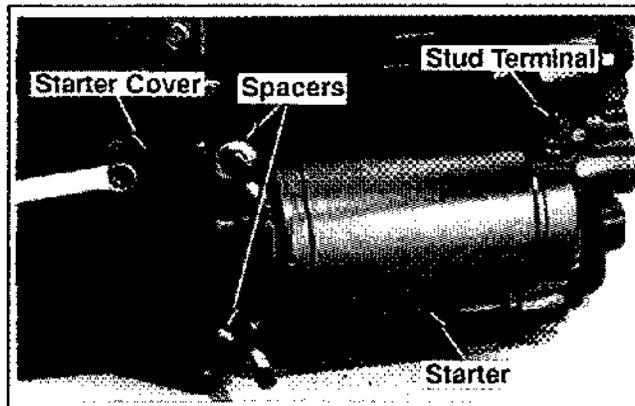

Figure 9-12. Removing Bendix Drive Starter.
1. Disconnect the lead from the stud terminal. See Figure 9-12. Disconnect both leads on Solenoid Shift Starter.